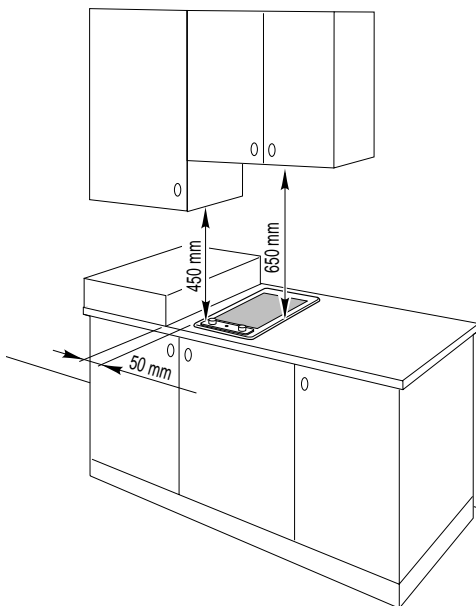

Fig. 4.2
- there must be a distance of at least 650 mm between the hob and any wall cupboard or extractor hood positioned immediately above (see fig. 4.2).